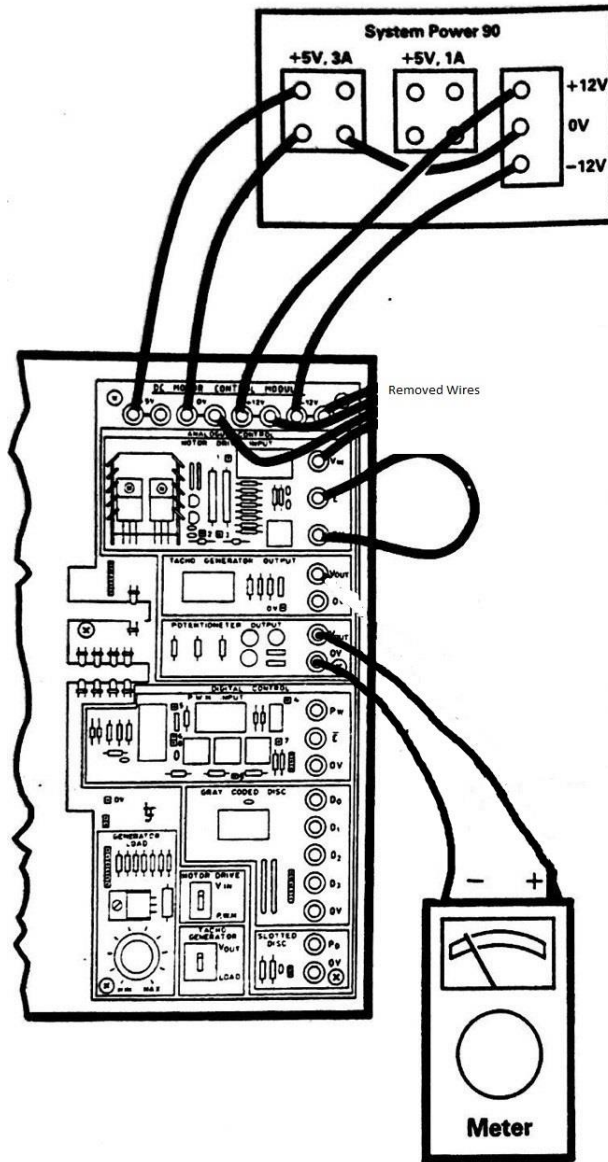

Figure 2
The Figure 2 shows the Circuit Connection For this experiment.
1. Connect the Circuit to Power-Supply as shown in Figure 2 in [Circuit Connection].
2. Connect the Voltmeter to the Potentiometer Output in parallel as shown in Figure 2 in [Circuit Connection].